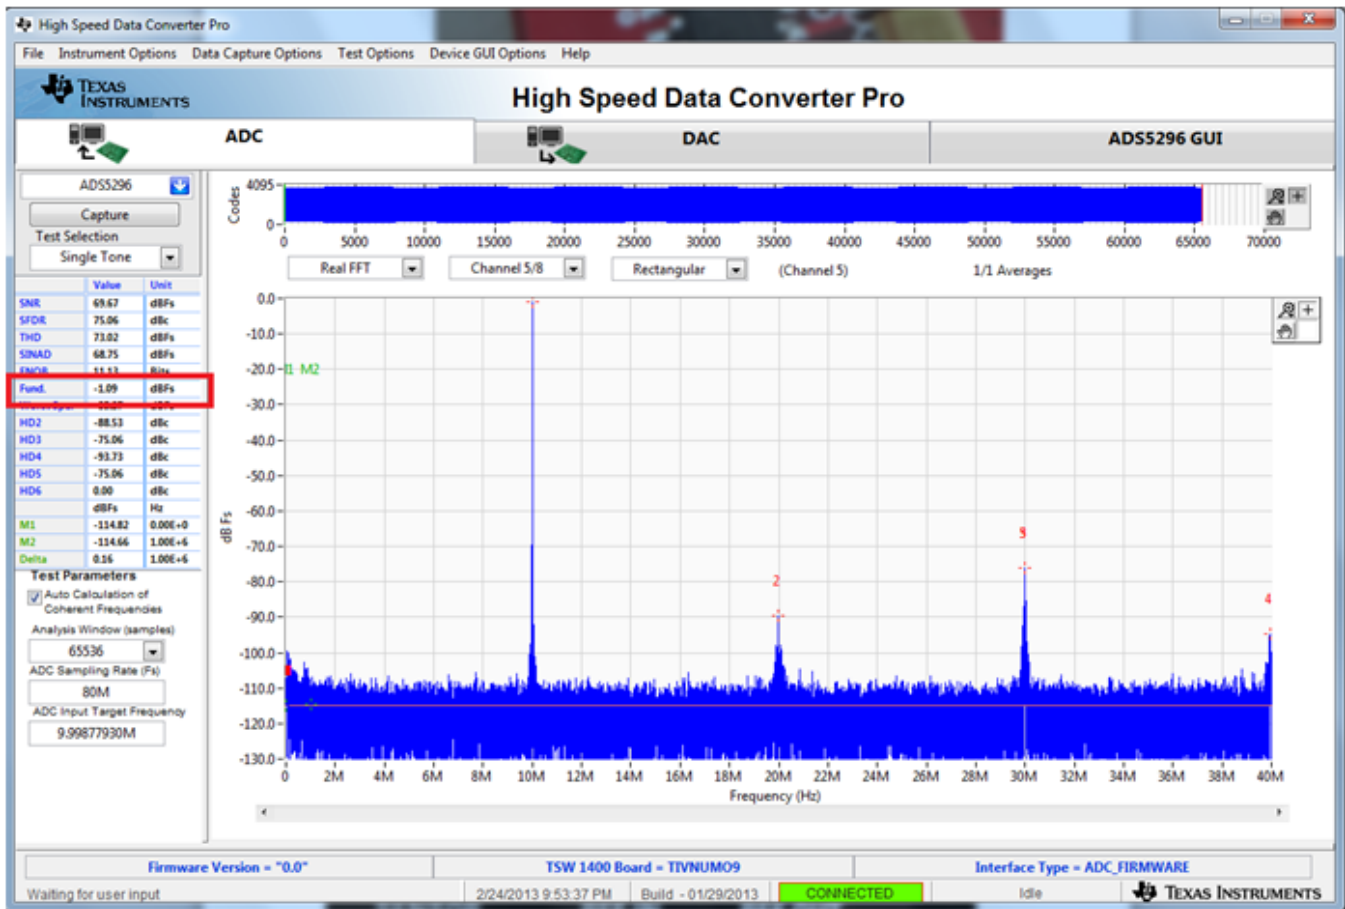

Figure 41. Octal Non-Interleaving Mode Capture 1
- The plot will update as shown in Figure 41. Take note of the *Fund.* value in the left panel highlighted in RED in Figure 41. This value is dependent on the signal level set on the signal generator feeding the input signal to J15. It also depends on cable loss and filter insertion loss which can vary among parts. If needed, reset the signal amplitude (level) until the *Fund.* value is approximately -1.0 dBFS, as this is the condition for which the datasheet specifications are set. In the example shown here, the input level should be changed from 15.0 dBm to 15.1 dBm and then a capture retaken.